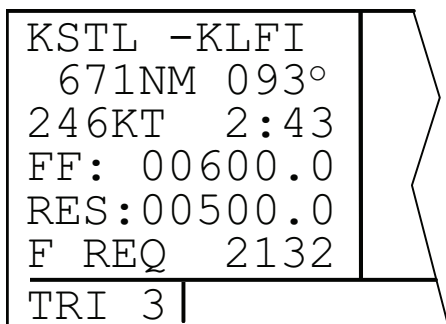

Figure 3D-92. TRI 3 Page
8. Press the **ENT** button to approve the waypoint page. The distance, bearing, and estimated time en route are now displayed, as shown in Figure 3D-92.